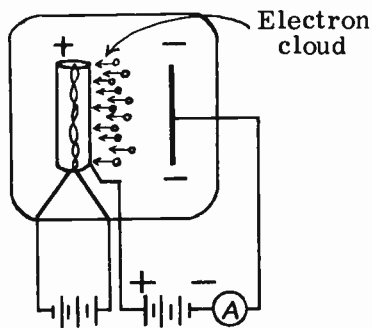

FIG. 6-7. DIODE ACTION WHEN PLATE IS NEGATIVE.
**THE DIODE AS A NON-CONDUCTOR.** If we reverse the battery connections, as shown in Fig. 6-7, the plate becomes negative and the cathode positive. Since the negative plate will not attract electrons, the diode will NOT CONDUCT. The diode, therefore, acts like an open circuit and no current will flow. The meter will read zero current. The emitted negatively-charged electrons are repelled by the negative plate and remain close to the cathode where they form an **ELECTRON CLOUD**. The cloud of electrons around the cathode is also known as a **SPACE CHARGE**. If the plate were to become positive once again, the space charge would be rapidly reduced since its electrons would be attracted to the plate.